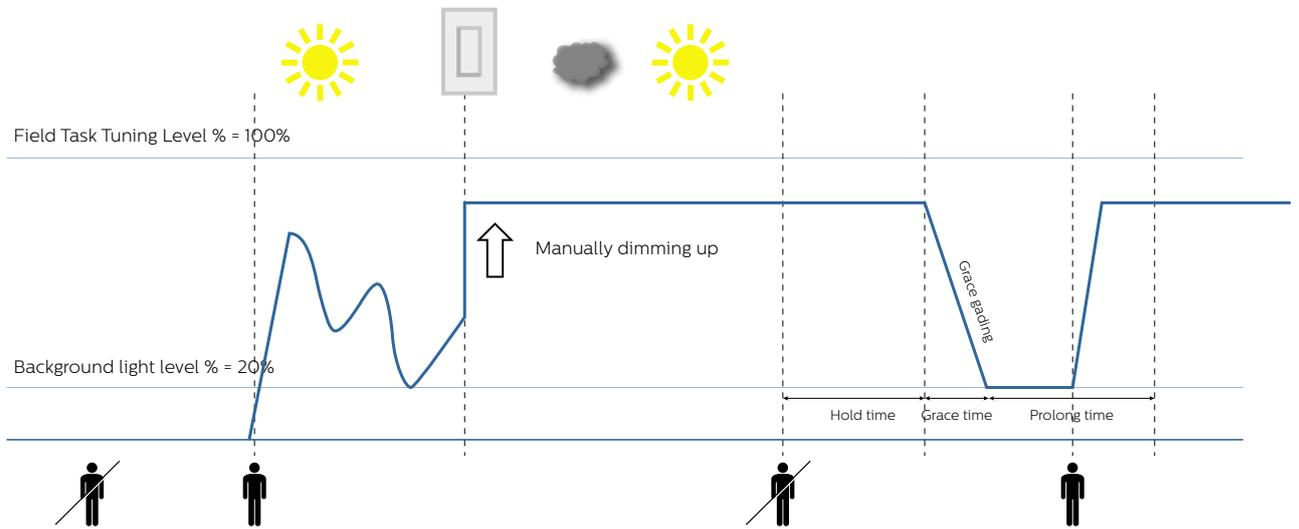
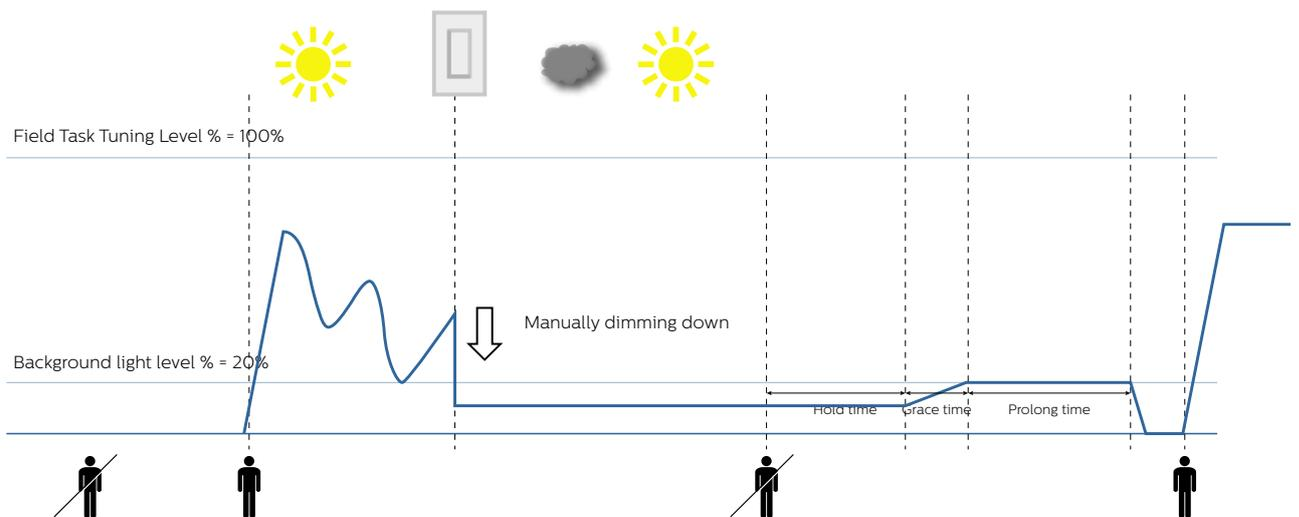

Figure 10. Auto-on/auto-off with manual dimming override.
Figure 11. Auto-on/auto-off with manual dimming override.
- Light level can be set to an intermediate level by manual dimming override using the wireless switch. When a manual dimming override is performed, daylight-based control is disabled, and light will be on constantly at this level. When the room becomes unoccupied, the light goes to the background light level during prolong time, and if the occupant enters the room before prolong time expires (Figure 10), the light will stay at the level set by the manual dimming override. If the prolong time expires, the light will turn off and go to the eco-on light level when occupant enters the room (Figure 11).